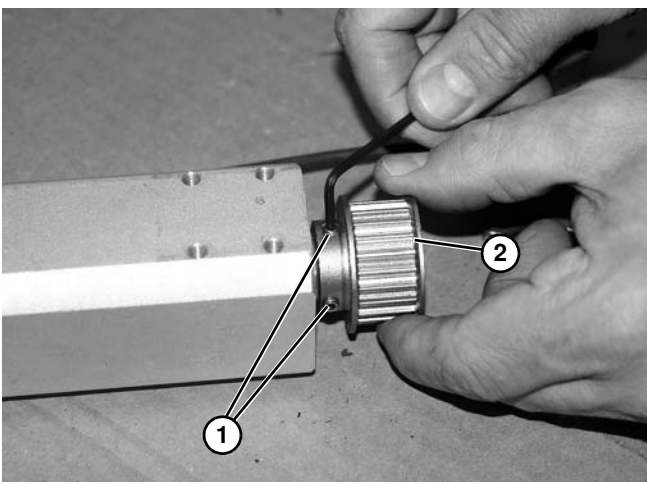

Figure 105
11. Loosen two set screws (Figure 105, item 1) securing drive pulley (Figure 105, item 2). Slide drive pulley off of motor shaft.